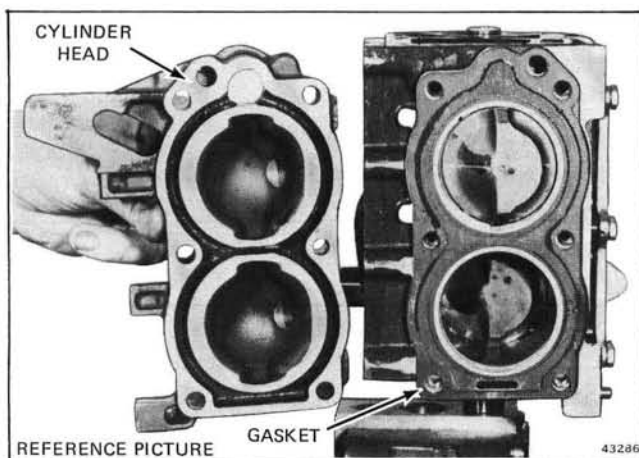

Figure 5-13. Cylinder Head Removed
d. Remove cylinder head and gasket. See Figure 5-13.